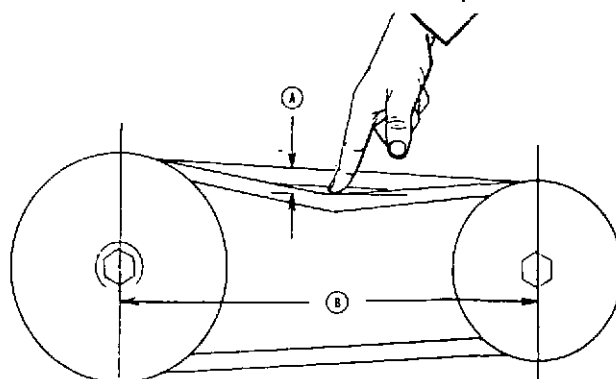

Fig. 5-21. Checking belt tension manually
2. If belt tension gauge is not available, tighten belts so pressure of index finger will depress belt as shown in Table 5-2. The index finger should be extended straight down from hand; in this manner, force will be approximately 13 lb [5.8968 kg] deflection (A, Fig. 5-21) per ft [0.3048 m] of span (B).